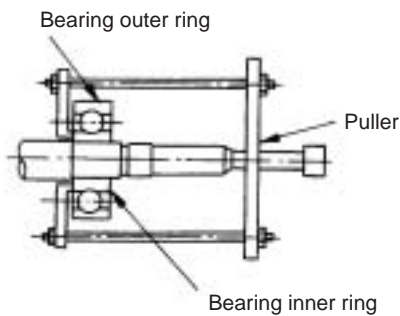
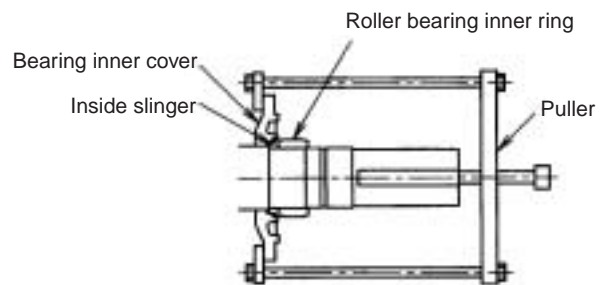

Fig. 12 Removal of ball bearing
Fig. 13 Removal of roller bearing inner ring
- (3) Pull out the ball bearing (Fig. 12) and roller bearing inner ring (Fig. 13) with a puller. In case of grease-replenish type structure, pull out above parts together with bearing inner cover and inside slinger. Bearing outer ring Roller bearing Bearing inner cover inner ring Puller Inside slinger.